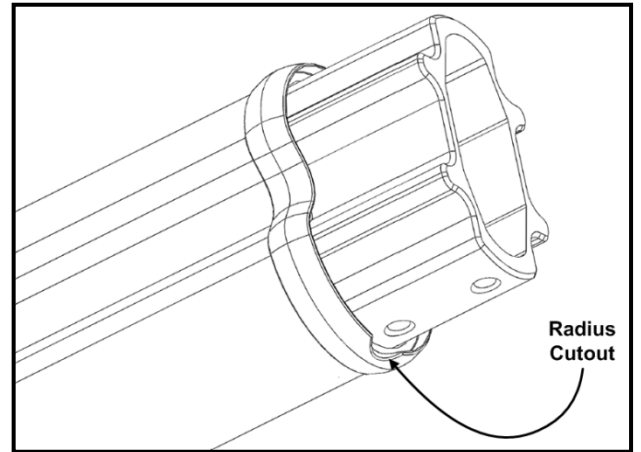

Fig. 10
- Slide on the second set of beauty rings (Fig.10) onto each upper handrail while making sure the radius cutouts clear the available threaded holes.